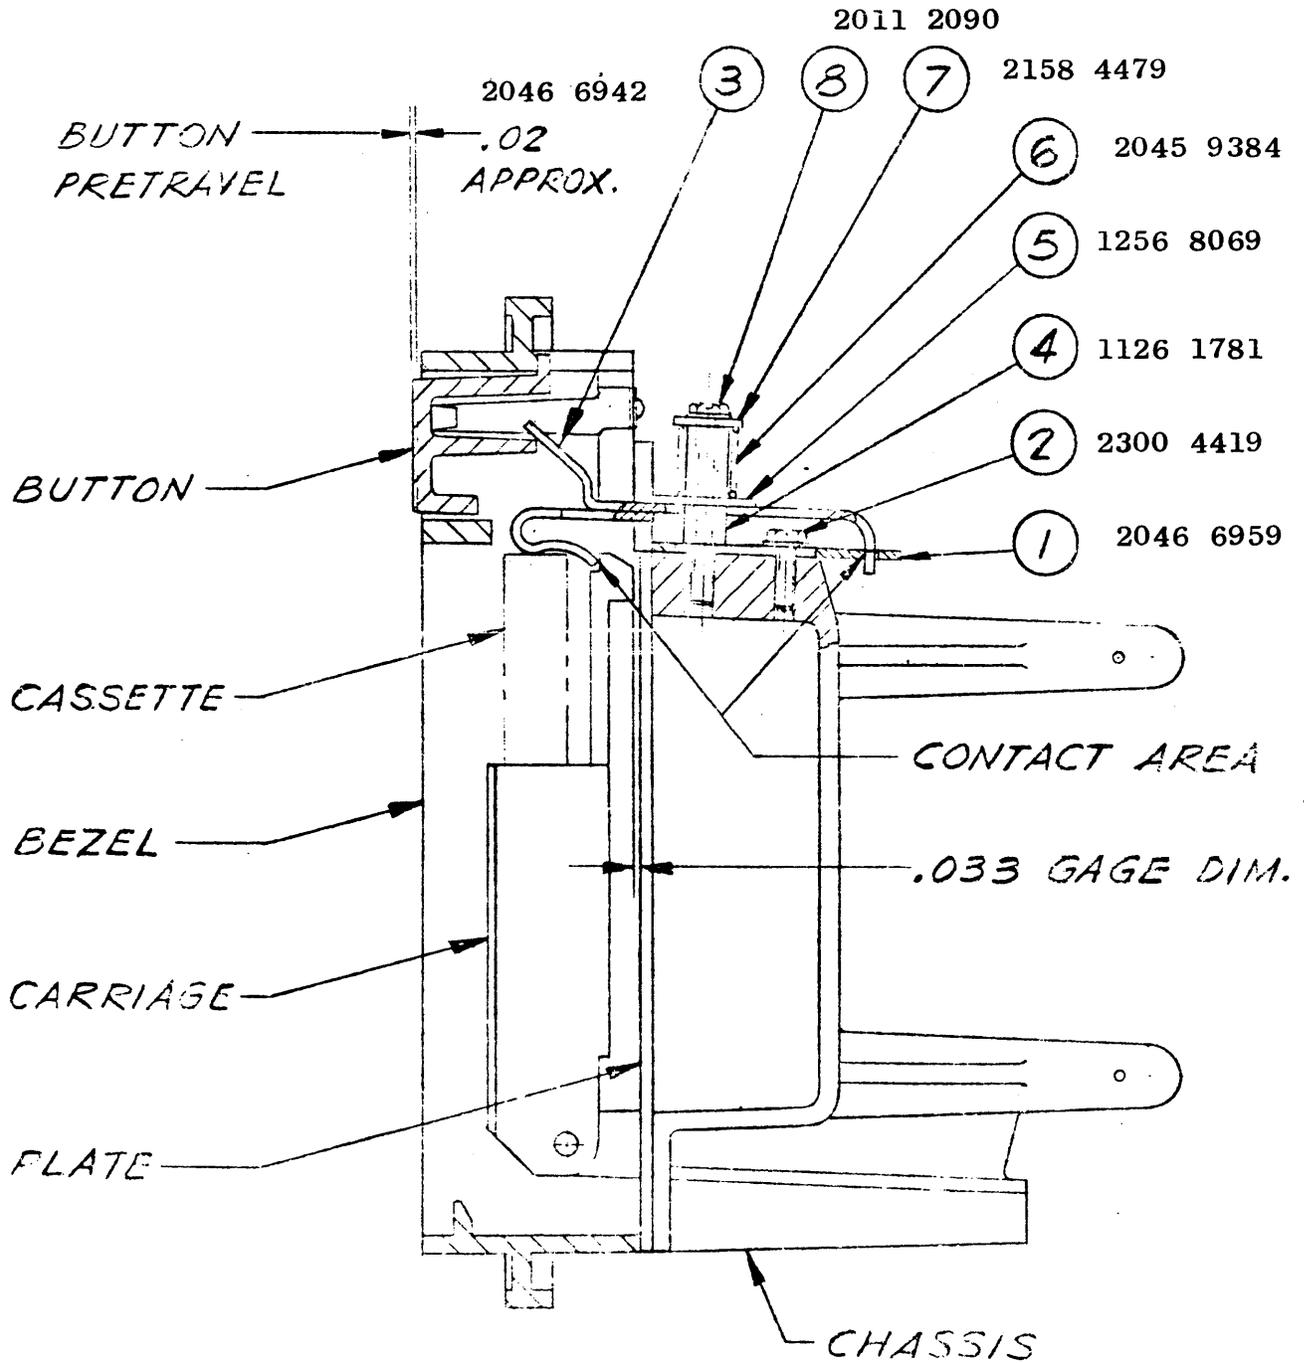

FIG. 1
4. Assemble the new latch as shown in Figure 1, using the same tapped holes that secured the old latch. Use washers retained in Step 3 under screw 2300 4419, but do not tighten at this time.
6. Insert cassette in carriage, close carriage so that latch enters slot in carriage. Adjust base (Item 1), to obtain .033 Dim. with latch contacting carriage and tang on latch in contact with slot in base as shown in Figure 1. Tighten screw, Item 2. There should exist approximately .02 inch button pretravel. If not, bend latch away from button to obtain pretravel. Depress button to lift latch and release carriage. Should pretravel be excessive, latch may not be lifting sufficiently to release carriage. To correct, bend latch toward button.